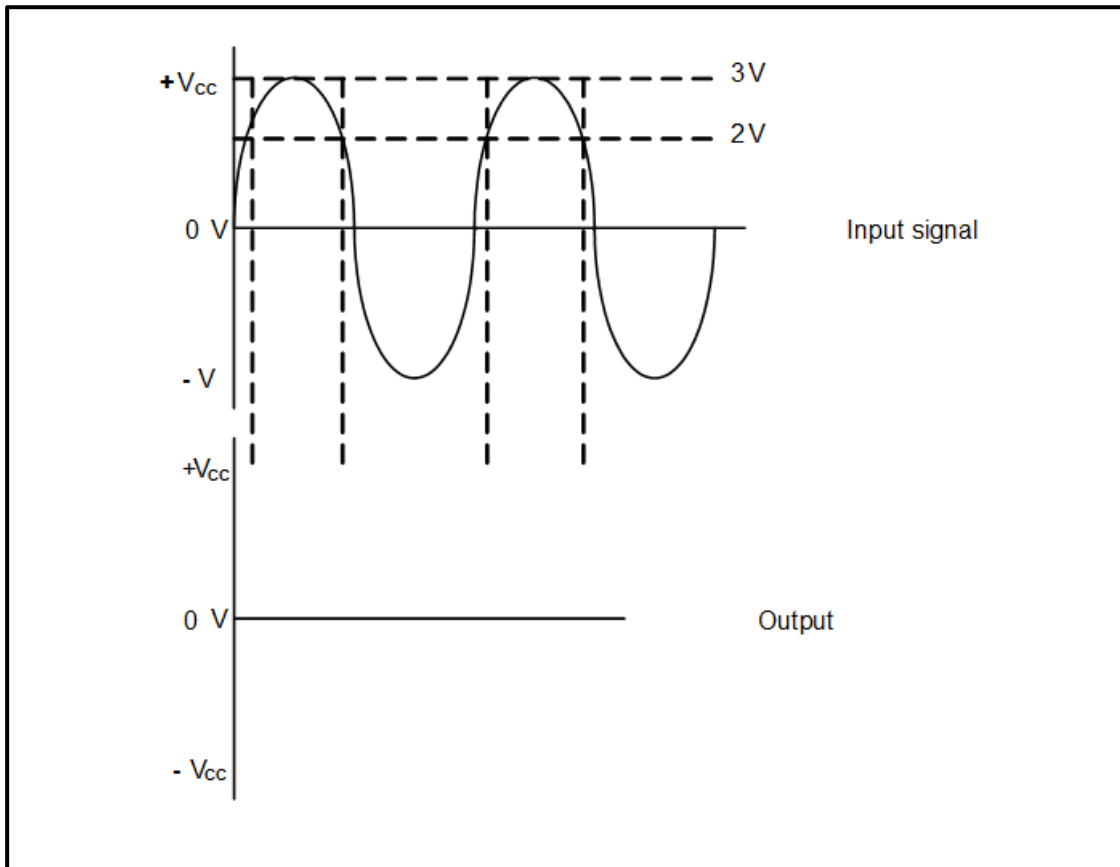
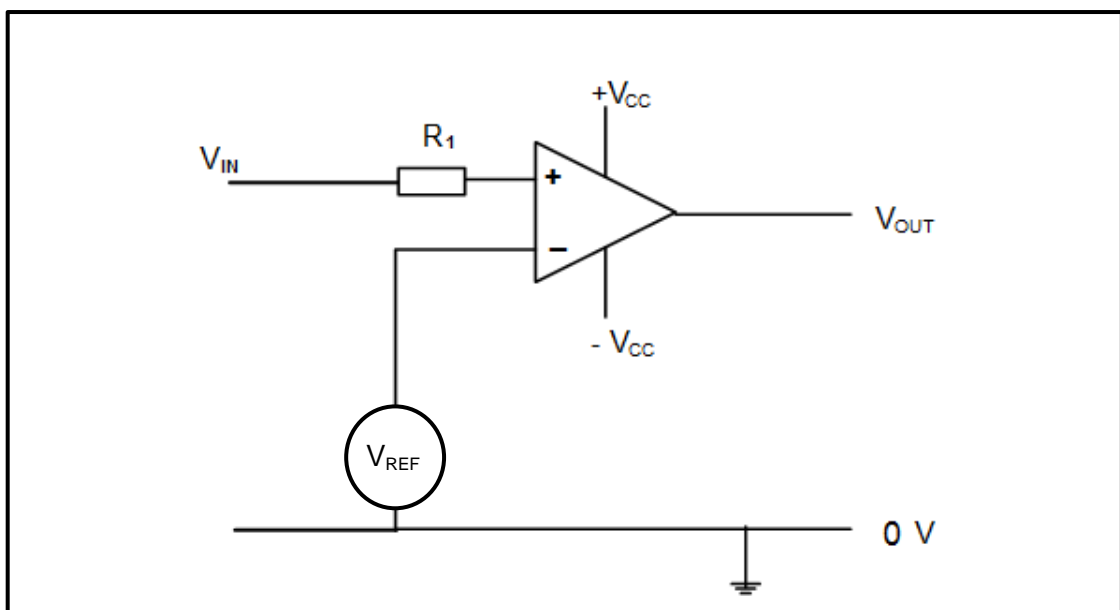

FIGURE 7.3.1: INPUT TO A VOLTAGE COMPARATOR OP AMP
FIGURE 7.3.2: VOLTAGE COMPARATOR OP AMP
7.3 FIGURE 7.3.1 below shows the input to a voltage comparator op amp in FIGURE 7.3.2. Draw the input signal and directly below that, on the same y-axis, draw the output signal.